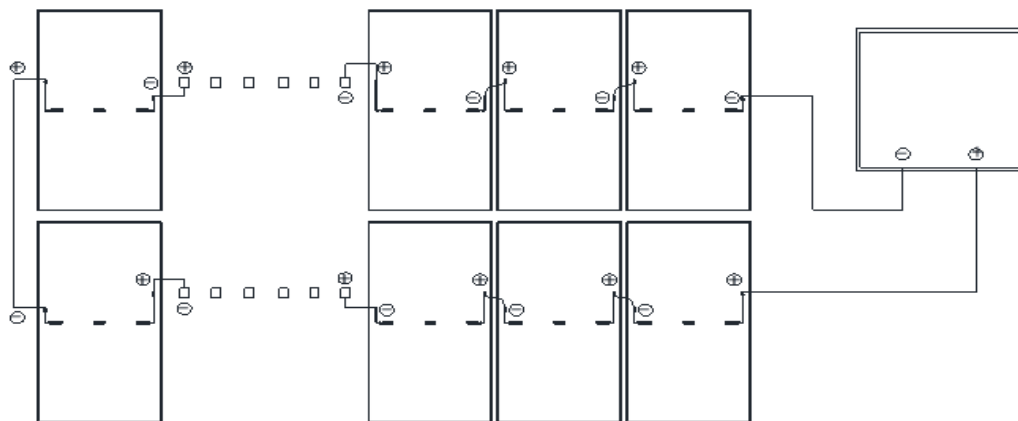

Fig. 9-3 Vertical installation of long cable modules
- When install modules with long cables, connect it with its own cable length and do not use extended cables, see Fig. 9-3 and 9-4, When connect adjacent modules in different rows